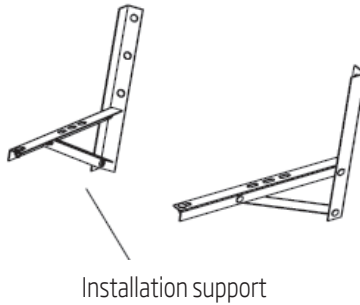

Fig. 10
- If installation brackets for installing outdoor unit are needed, user could buy the brackets from our company or agents (Fig. 10).